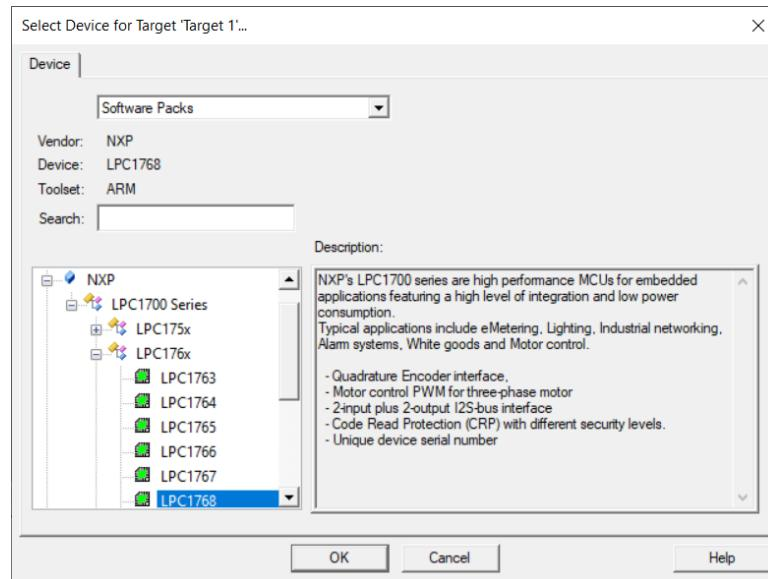

Figure 8.2: Keil IDE: Choose MCU
- Select NXP → LPC1700 Series → LPC176x → LPC1768 (See Figure 8.2).